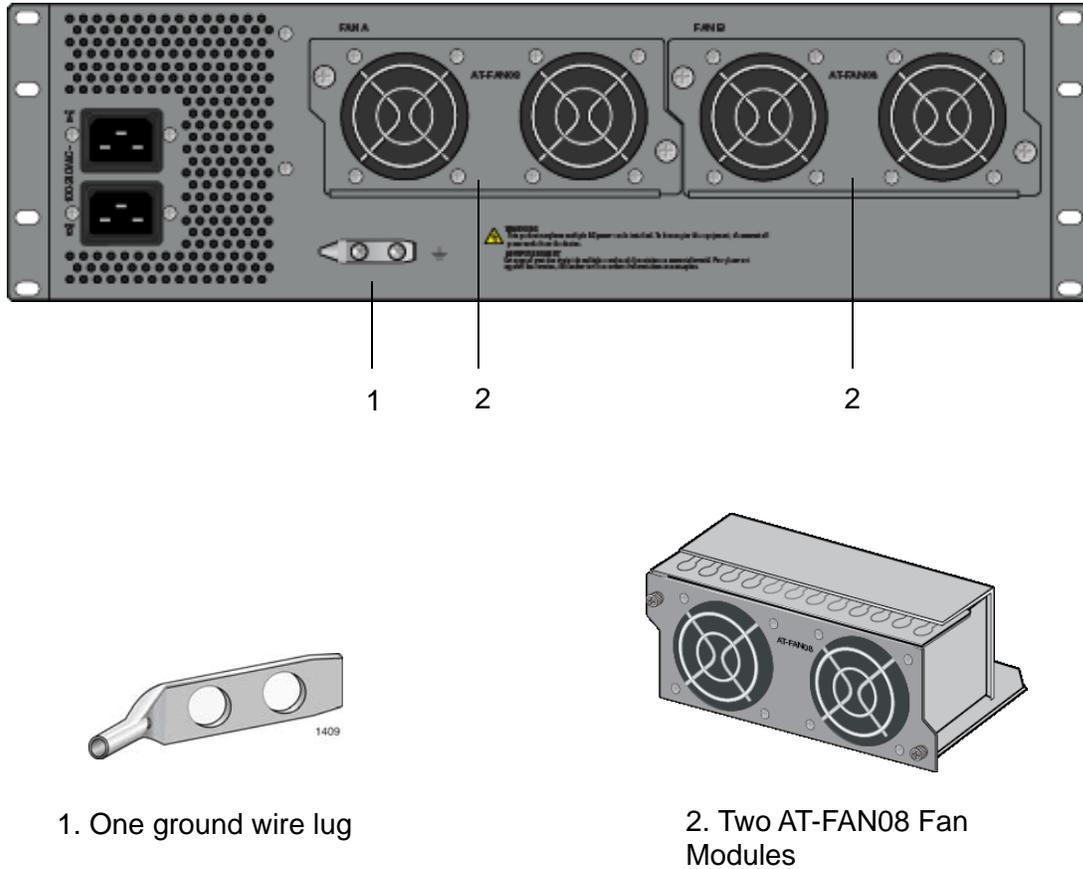

Figure 34. Pre-installed Items on the Rear Panel
4. Visually inspect the rear panel for the pre-installed components shown in Figure 34 on page 86.